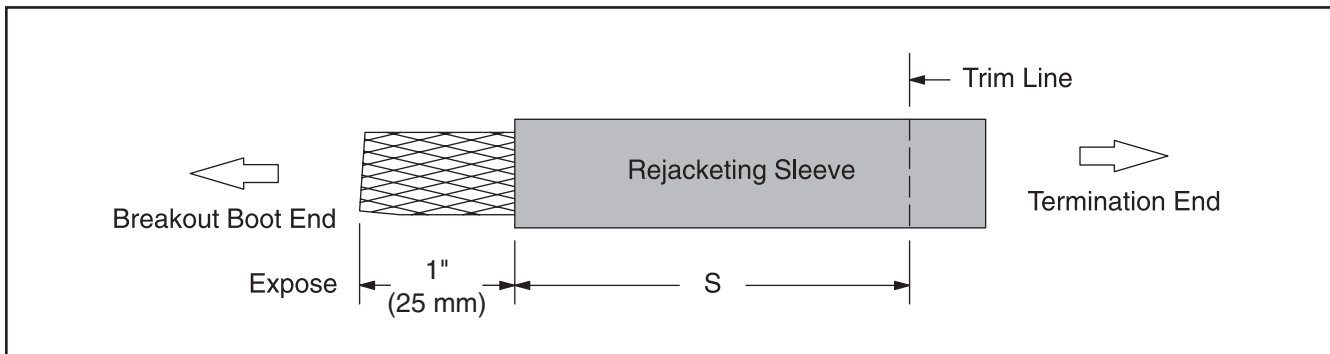

Figure 6
4.3 Using scissors, trim re-jacketing sleeve assembly to length required (*Figure 6*). Cut tubing and inner braid together.